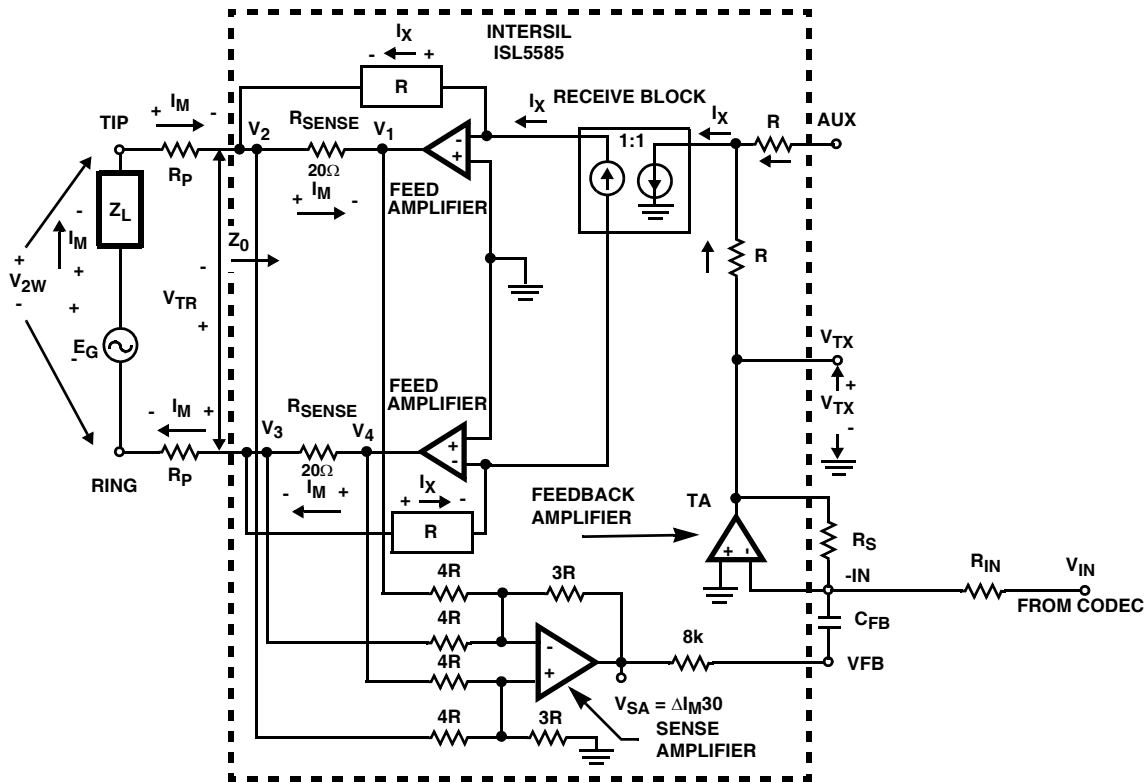

FIGURE 4. AC SIGNAL TRANSMISSION MODEL
The feedback mechanism for monitoring the AC portion of the loop current consists of two amplifiers, the Sense Amplifier (SA) and the Transmit Amplifier (TA). The AC feedback signal is used for impedance synthesis. A detailed model of the AC feed back loop is shown in Figure 4.
The Sense Amplifier is configured as a 4 input differential amplifier with a gain of 3/4. The voltage at the output of the sense amplifier (V_{SA}) is calculated using superposition. V_{SA1} is the voltage resulting from V_1 , V_{SA2} is the voltage resulting from V_2 and so on (reference Figure 4).
V_{TR} is defined in Figure 4, note polarity assigned to V_{TR} :
Node Equation at ISL5585 AUX input, Figure 4
4-wire to 2-wire gain across the ISL5585 is equal to the V_{2W} divided by the input voltage V_{IN} , reference Figure 4. The receive gain is calculated using Equation 32.
The 2-wire to 4-wire gain is equal to V_{TX}/E_G with $V_{\text{IN}} = 0$, reference Figure 4.